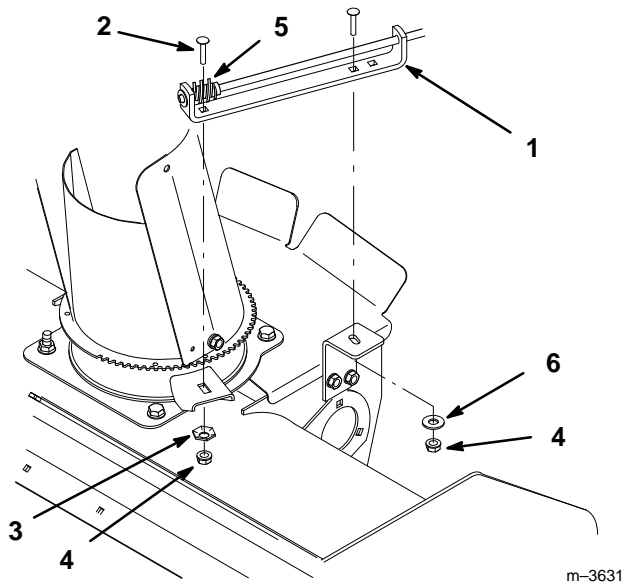

Figure 7
7. Install the discharge chute rotator assembly into the slots in the housing with (2) 5/16 x 1" (25 mm) carriage bolts, a 5/16" (8 mm) pyramidal washer (concave side up), a 5/16" (8 mm) flat washer, and (2) 5/16" locknuts (Fig. 7).